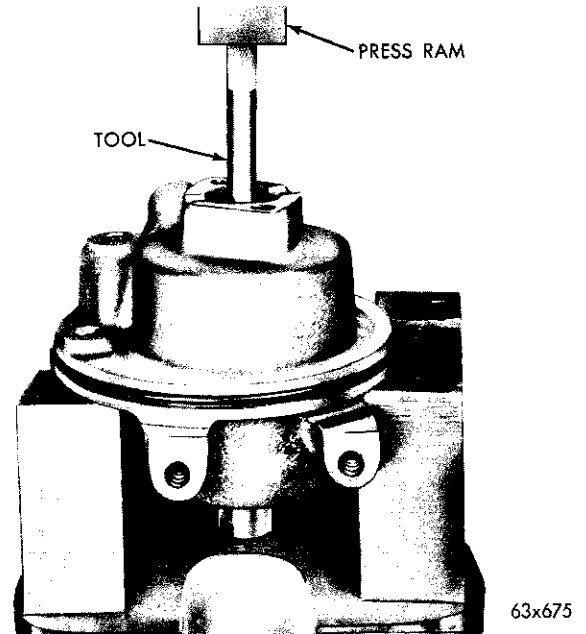

Fig. 13—Removing Shaft
(6) Support the pump housing so that the front insert is clear and use a smooth 1/2 inch diameter bar (Fig. 13), press the shaft, rotor and front insert out of the pump housing.